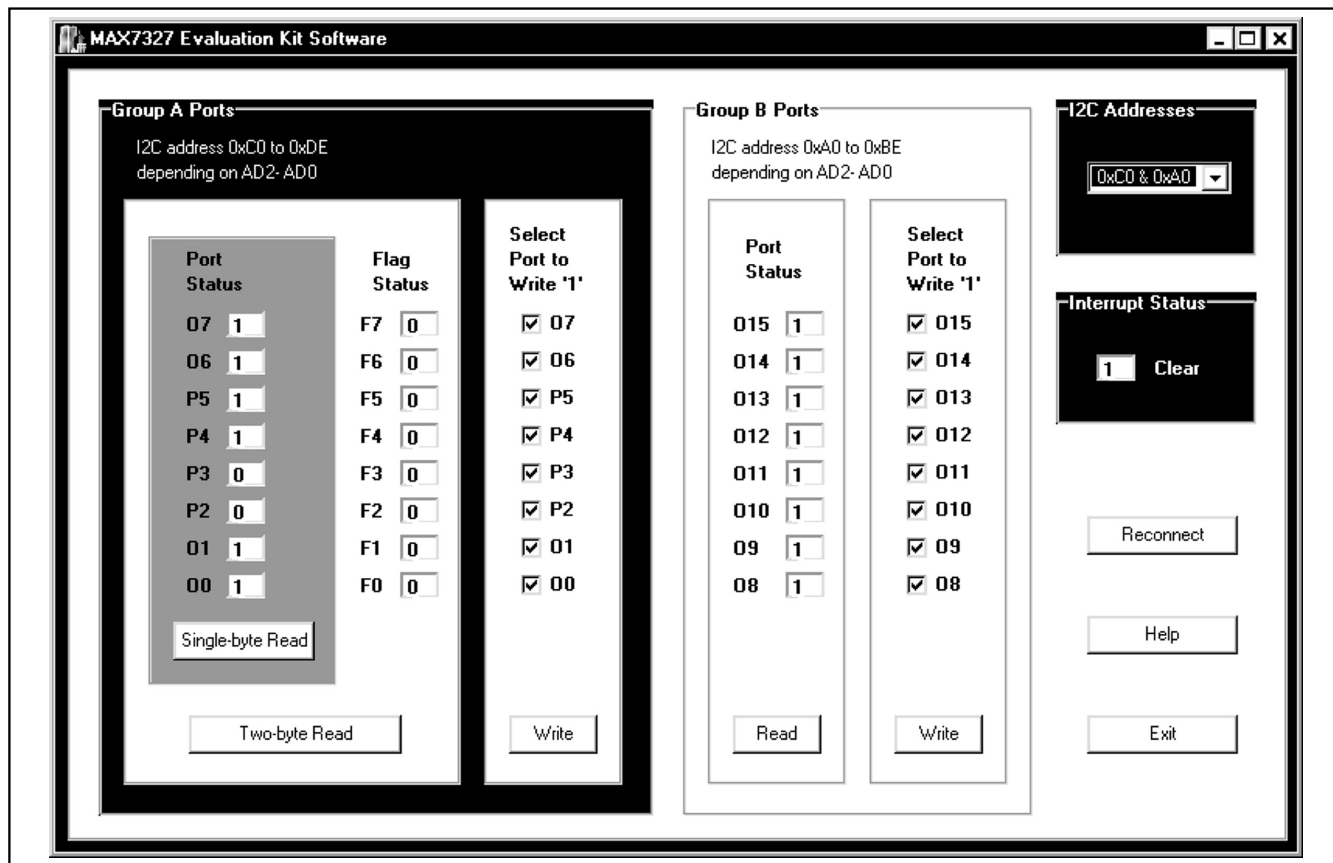

Figure 1. MAX7327 Evaluation Software Main Window
- Start the MAX7327 EV kit software by opening its icon in the **Start** menu. The GUI main window appears as in Figure 1.
To start the MAX7327 EV kit software, double-click the MAX7327 EV kit icon that is created during installation. The GUI main window appears as shown in Figure 1. The user will have to wait approximately two seconds while the MAX7327 EV kit software connects to the CMAXUSB board.
The **Group A Ports** groupbox shown in Figure 1 contains the read panel and write panel. The read panel consists of two sections: **Port Status** and **Flag Status**.